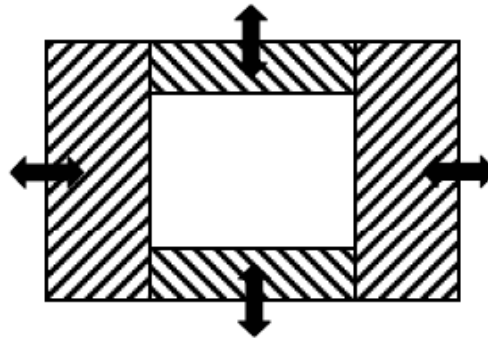

Fig. 2.4
- the size of the aperture, produced by overlapping metal plates, through which the X-ray beam passes after leaving the tube (see Fig. 2.4),